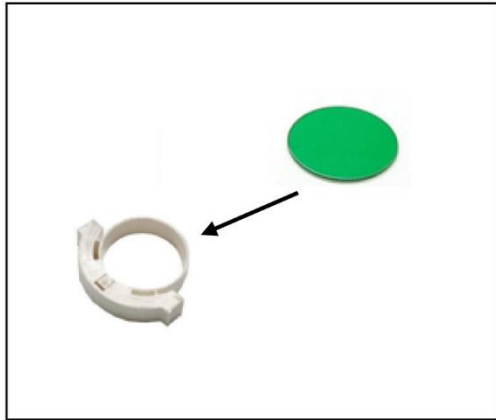

Figure 11
3.1.9. Using color filters (Figure 11)